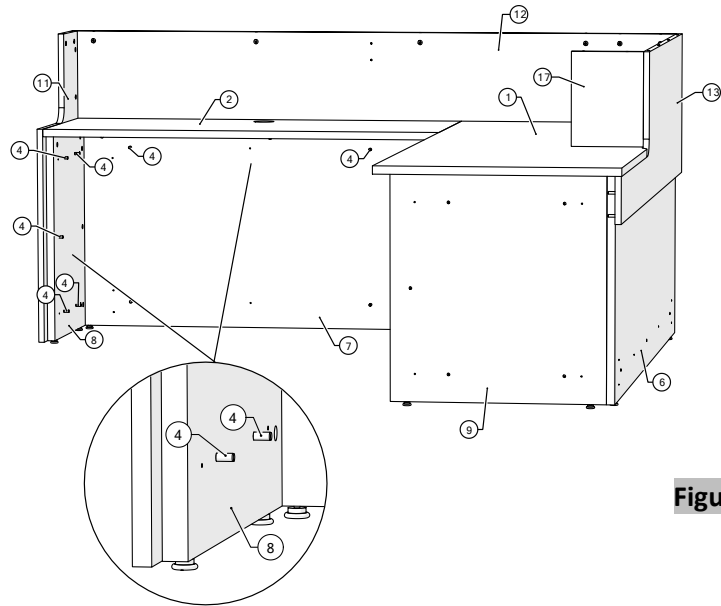

Figure 22
22. Push the wooden dowels with a wooden dowel and rubber mallet to hold the border-gable LH, border-upper return, and border-upper front (Figures 22 and 23).